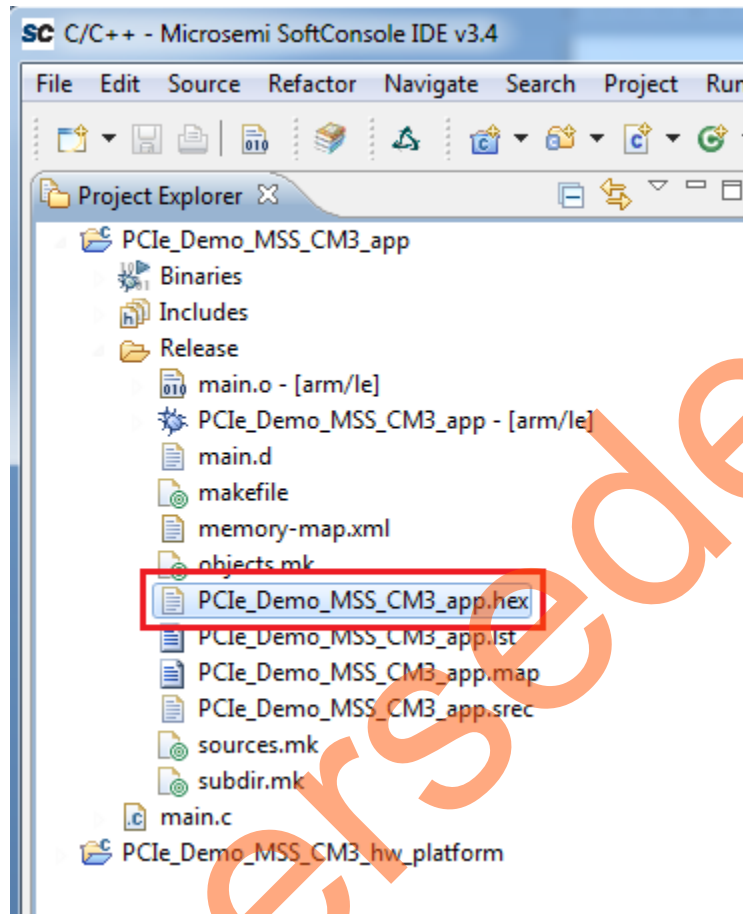
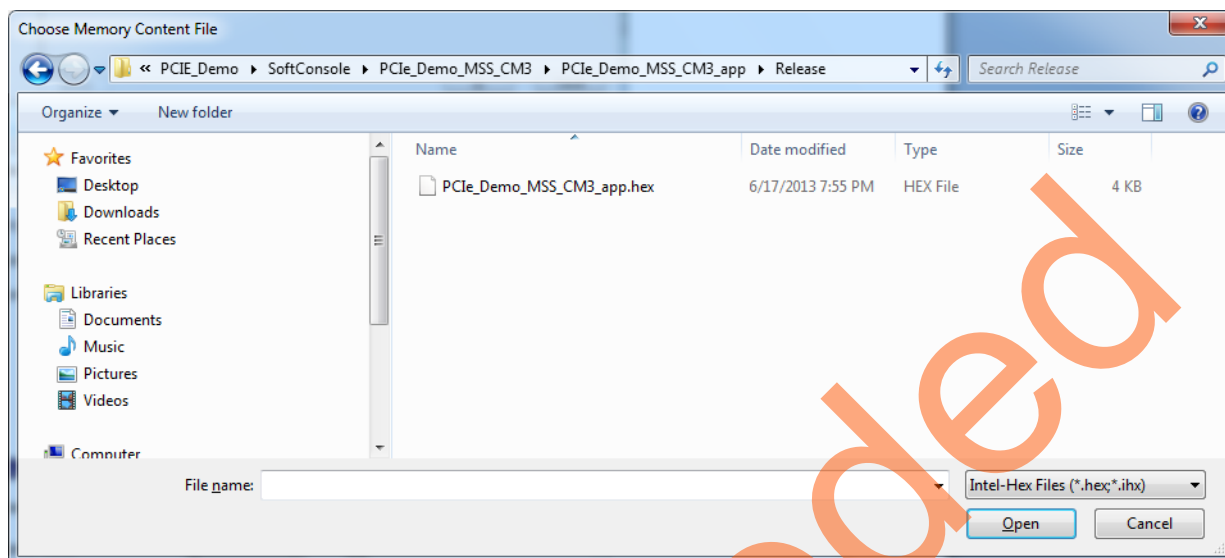

Figure 40 • Generated Hex File
Figure 43 • Browsing for .hex File
12. The SoftConsole creates a hex file in the **Release** folder under the **PCIe_Demo_MSS_CM3_app** project as shown in Figure 40.
18. Browse for the .hex file generated (as shown in Figure 40 on page 39). The generated executable image can be found in the **Release** folder under the SoftConsole project workspace as shown in Figure 43.